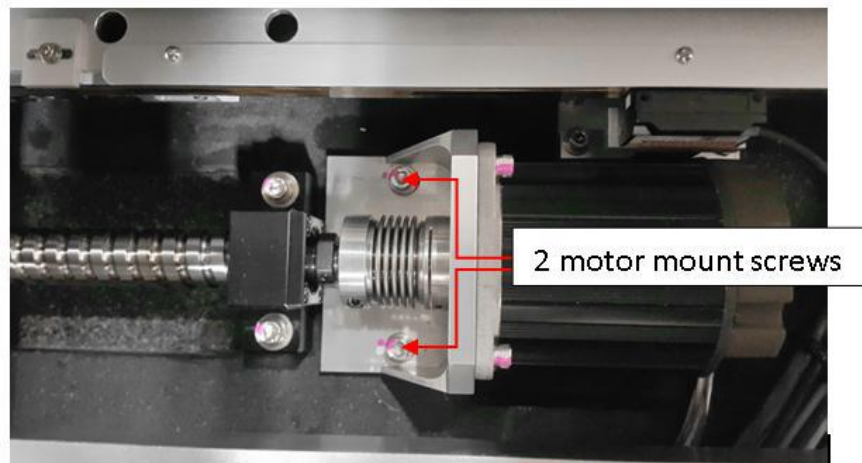

Figure 54 Motor mount screws
58. Tighten back 2 x Motor Mount screws as below Figure 54.